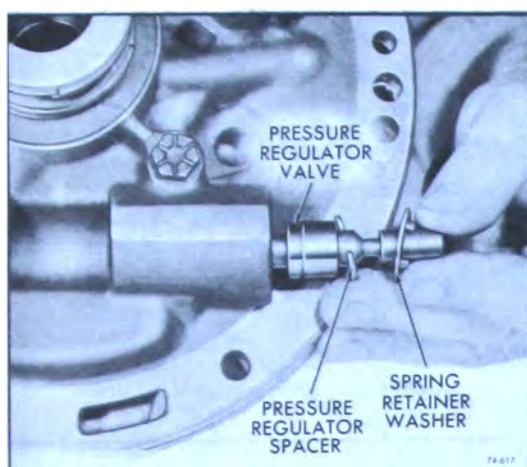

Figure 74-616
5. Remove the regulator valve, spring retainer and spacer(s), if present. See Figure 74-616.